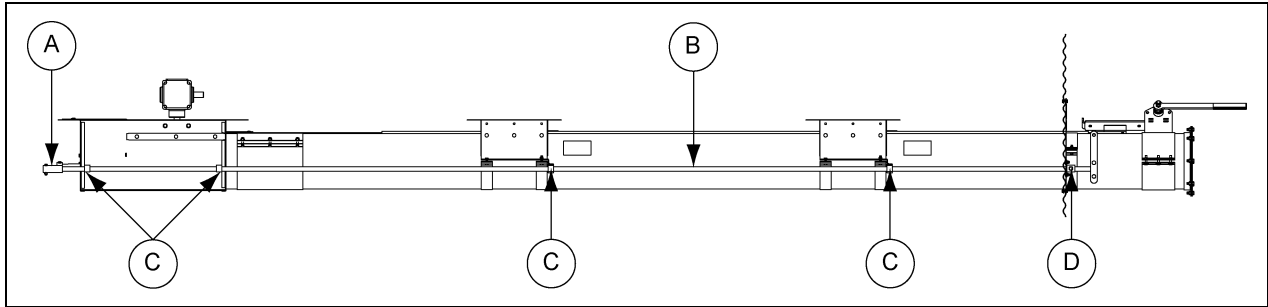
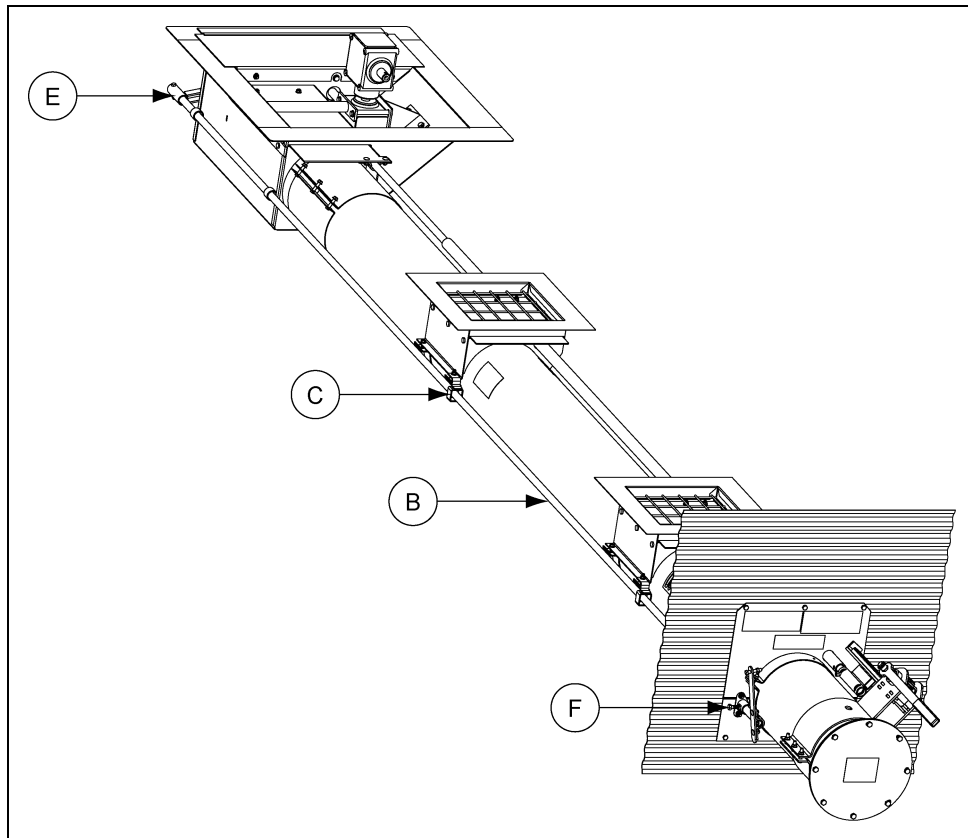

Figure 4Q
Figure 4R
- Slide the clutch control pipe through the bin flange and the support brackets on the intermediate and center wells. Slide the clutch control pipe into clutch collar on the center well. (See Figure 4Q and Figure 4R.)